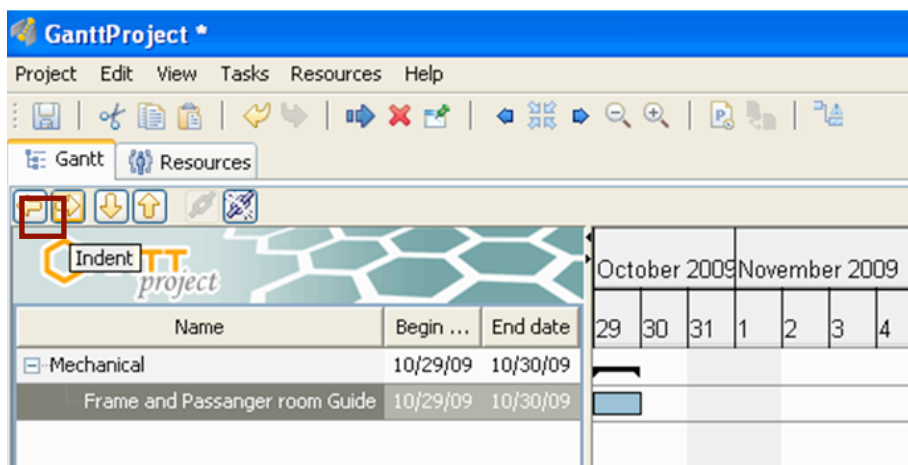

Figure 4.14: The indent button in the Gantt tab toolbar.
4. Click the New Task button to add a second task to the Tasks pane. Type **Frame and Passenger room Guide**, press **ENTER**, and then click the **Indent** button in the Gantt tab toolbar as shown in figure 4.14.